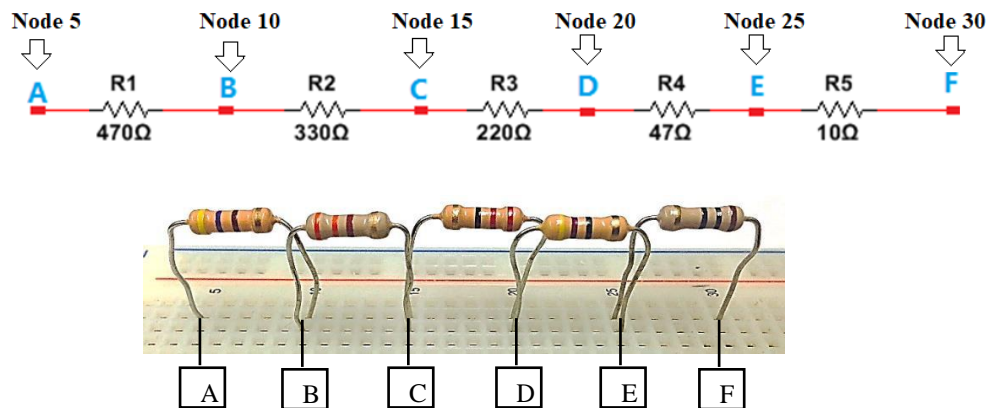

Figure 2.7 – Connecting resistors together as a chain
- Connect the resistors together as a chain in the protoboard. Check Figure 2.7.